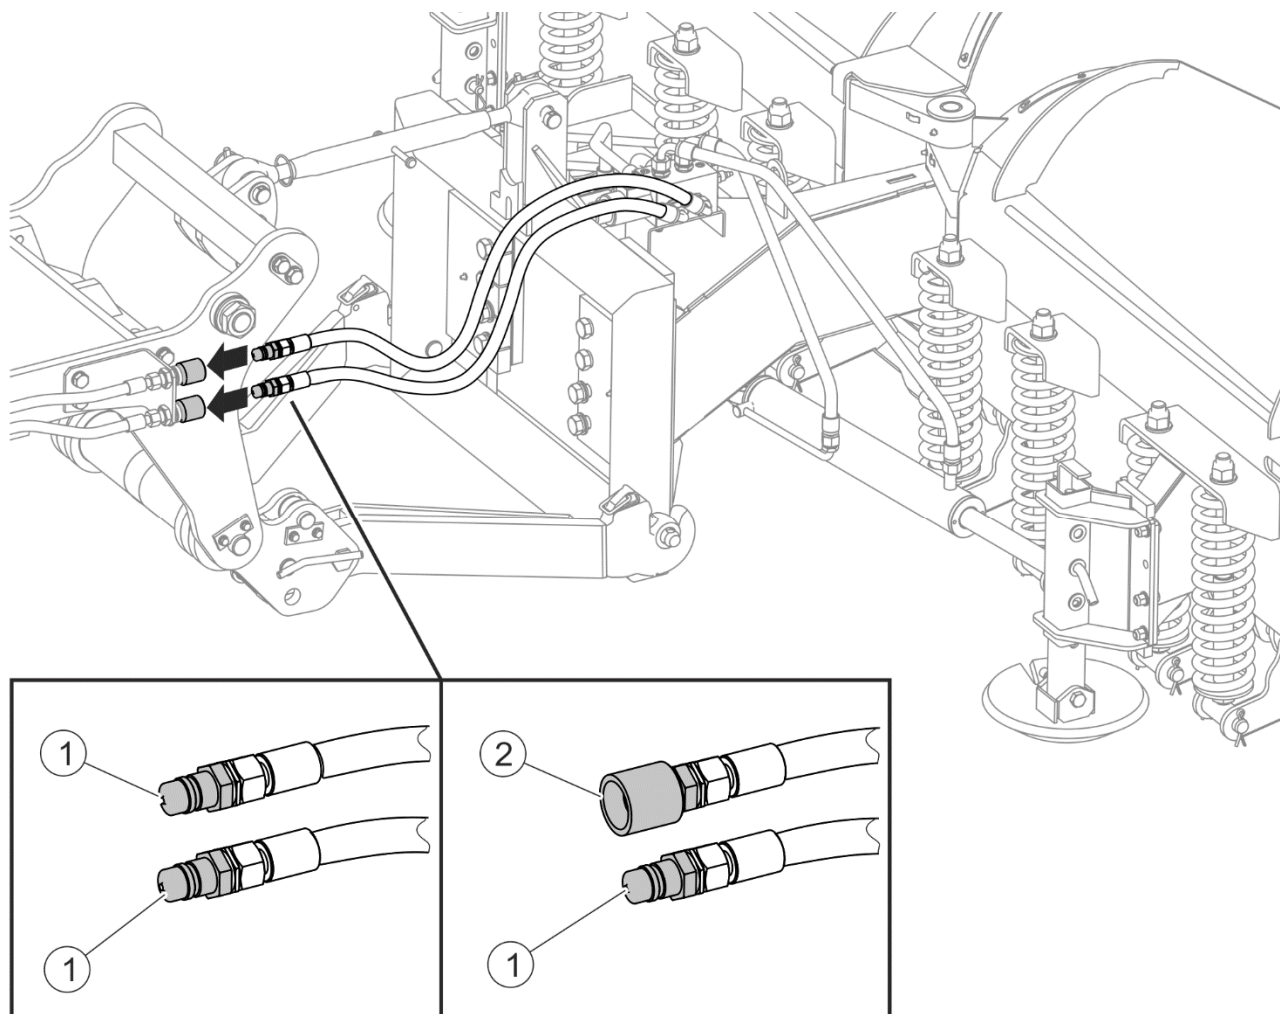

FIGURE 4.3 Connecting the hydraulic system
(1) - quick coupler plug; (2) - quick coupler socket
The snow plough's hydraulic quick couplers (FIGURE 4.3) should be connected to two connections in one section of the carrying vehicle's external hydraulic circuit. Depending on its version, the machine can be equipped with two hydraulic conduit plugs (1) or a plug (1) and a hydraulic socket (2).